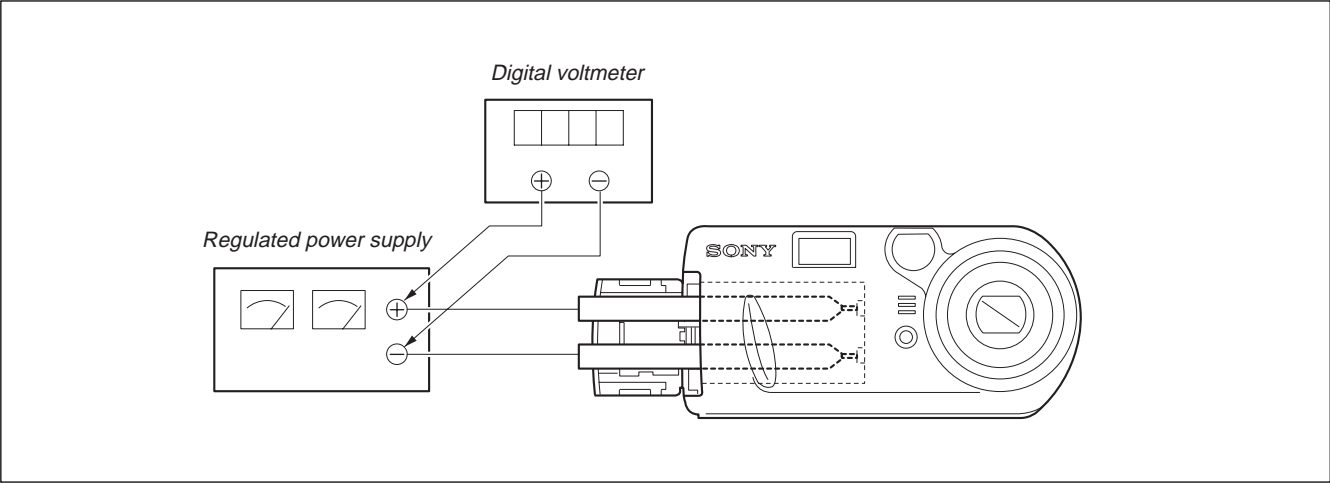

Fig. 6-1-20.
- 1) Connect the regulated power supply and the digital voltmeter to the battery terminal as shown in Fig. 6-1-20.